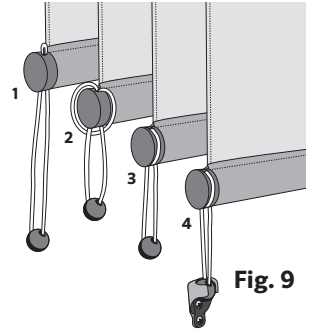

Fig. 9
- B.** Thread the Bungee through the End Cap hole on the shade and feed the ball end back through the loop to make a knot (**Fig. 9**).